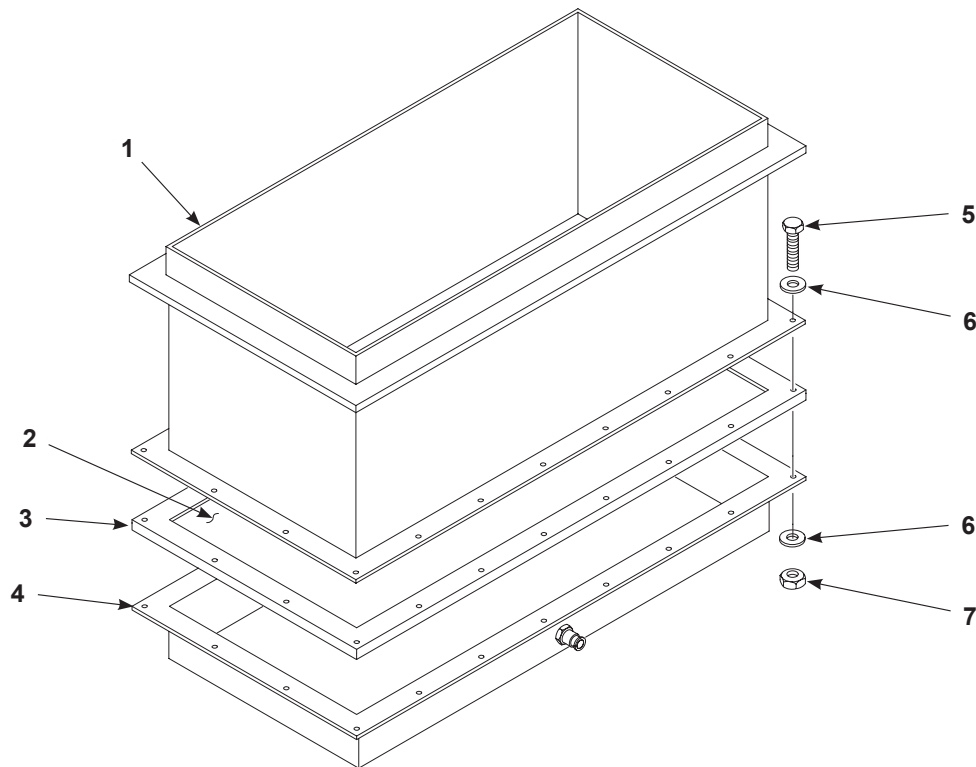

Figure 8-12 75-lb Feed Hooper Fluidizing Plate Replacement
2. See Figure 8-12. Remove the screws (5), flat washers (6), and nuts (7) securing the body (1) to the plenum (4). Lift the body off the plenum.
3. Remove and discard the old fluidizing plate (2) and U-gasket (3).